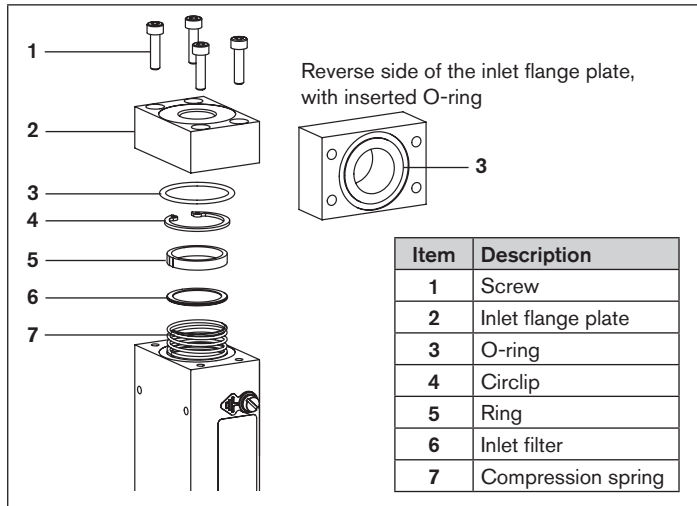

Fig. 21: Clean the inlet filter
- Regularly inspect the contamination of the inlet filter [5] (see Fig. 21).
- Remove the inlet flange plate [2] by loosening the screws [1] (see Fig. 21).